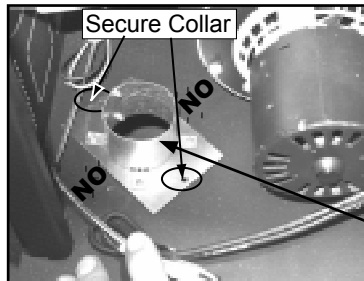

Figure 17.2
- h. Align and secure collar assembly with 2 of the 4 holes as shown. **Figure 17.2**